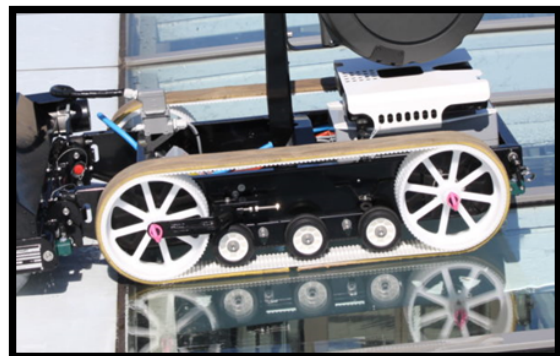
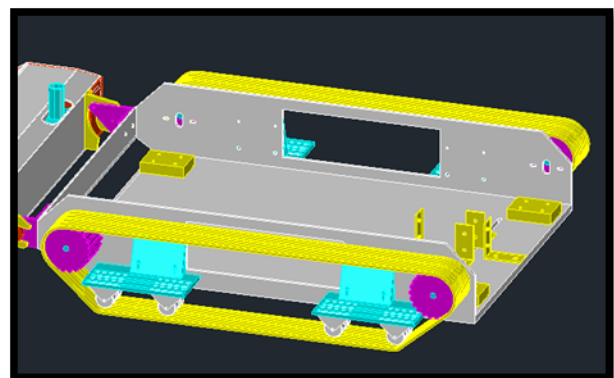

Figure 26 –Previous Belt Types
Figure 27 - flowchart of the Control App
- The movement system: Instead of using the old type of belt (Figure 26), Wedecide to use one more line of wheels under the pulleys for each side (Figure 27). That design make the robot have the 40° slopes in front of and behind the belts. According to that, the SPCR can cross the rough terrain easier. Moreover, the wheel lines - which plays the role as roller supports - are near the center so it can improve the stability and ability to carry more weight of the frame.